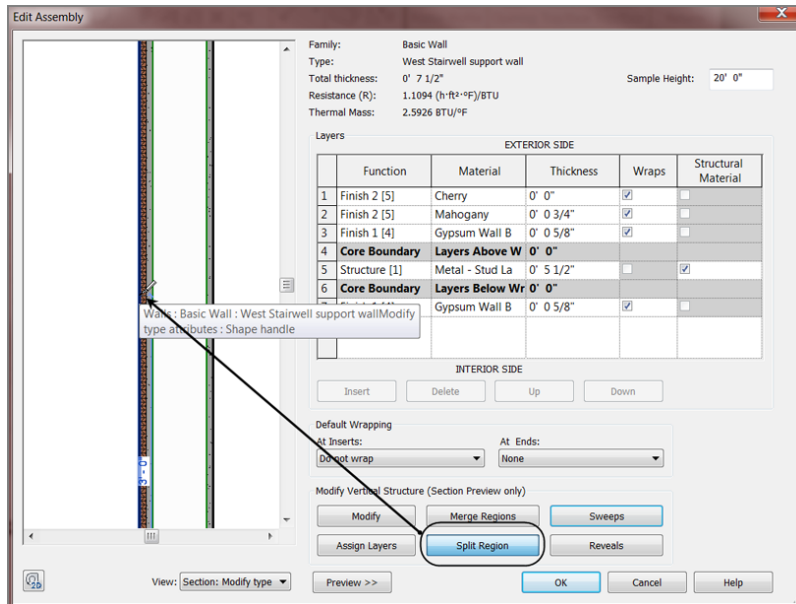

FIGURE 16.6 : Cutting the plywood at a specific height
6. Click the Split Region button, as shown in Figure 16.6.
8. When you see 3'-0" (900mm) in the temporary dimension, pick the point as shown in Figure 16.6. *Do not press Esc when you're finished!* If you place the split in the wrong place, click the Modify button and then select the split line you just created. You can then click the dimension field to edit the location. There is also a direction arrow that specifies whether the split is set from the bottom up (what you just did) or from the bottom down.